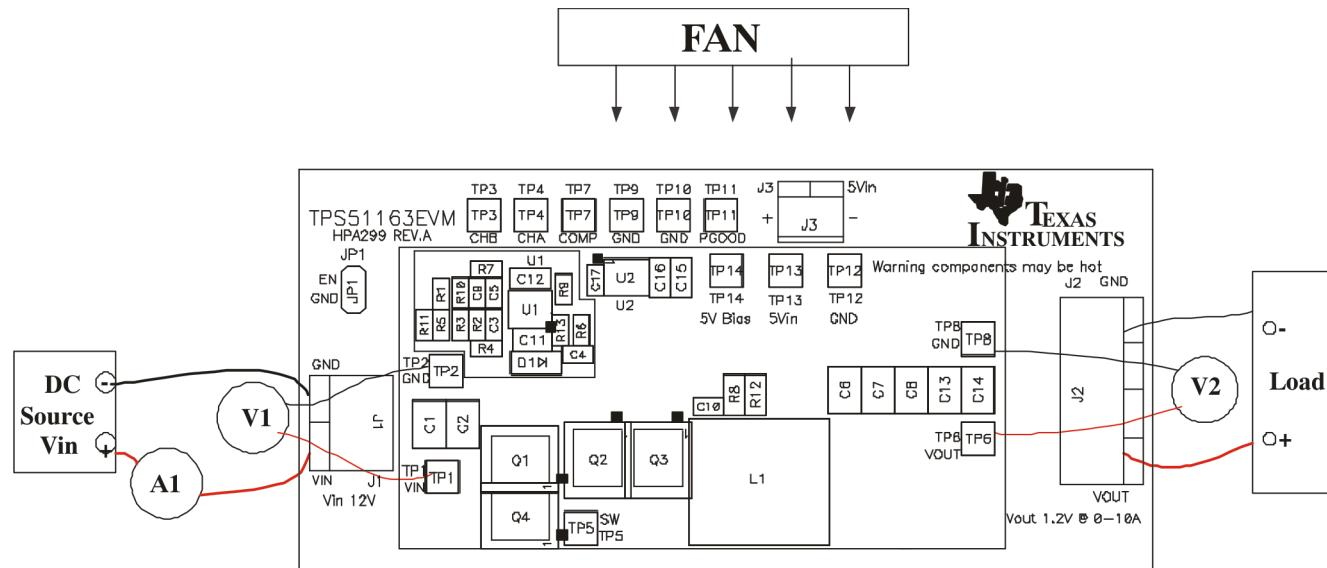

Figure 7-2. TPS51163EVM Recommended Test Setup
The input voltage source V_{IN} should be a variable DC source between 0 V and 14 V, capable of supplying 10 Adc. Connect V_{IN} to J1 as shown in Figure 7-2.
A voltmeter with a range between 0 V and 14 V should be used to measure V_{IN} at TP1 (V_{IN}) and TP2 (GND). A voltmeter with a range between 0 V and 5 V for V_{OUT} measurement at TP6 (V_{OUT}) and TP8 (GND). A current meter with a range between 0 A and 10 A (A1) as shown in Figure 7-2 is used for input current measurements.
Figure 7-2 is the recommended test setup to evaluate the TPS51163EVM. Working at an ESD workstation, make sure that any wrist straps, bootstraps, or mats are connected referencing the user to earth ground before power is applied to the EVM.
1. Prior to connecting the DC input source V_{IN} , it is advisable to limit the source current from V_{IN} to 10 A maximum. Make sure V_{IN} is initially set to 0 V and connected as shown in Figure 7-2.
Place a fan as shown in Figure 7-2 and turn it on, making sure air is flowing across the EVM.
1. Set up the EVM as described in Section 8.1 and Figure 7-2.